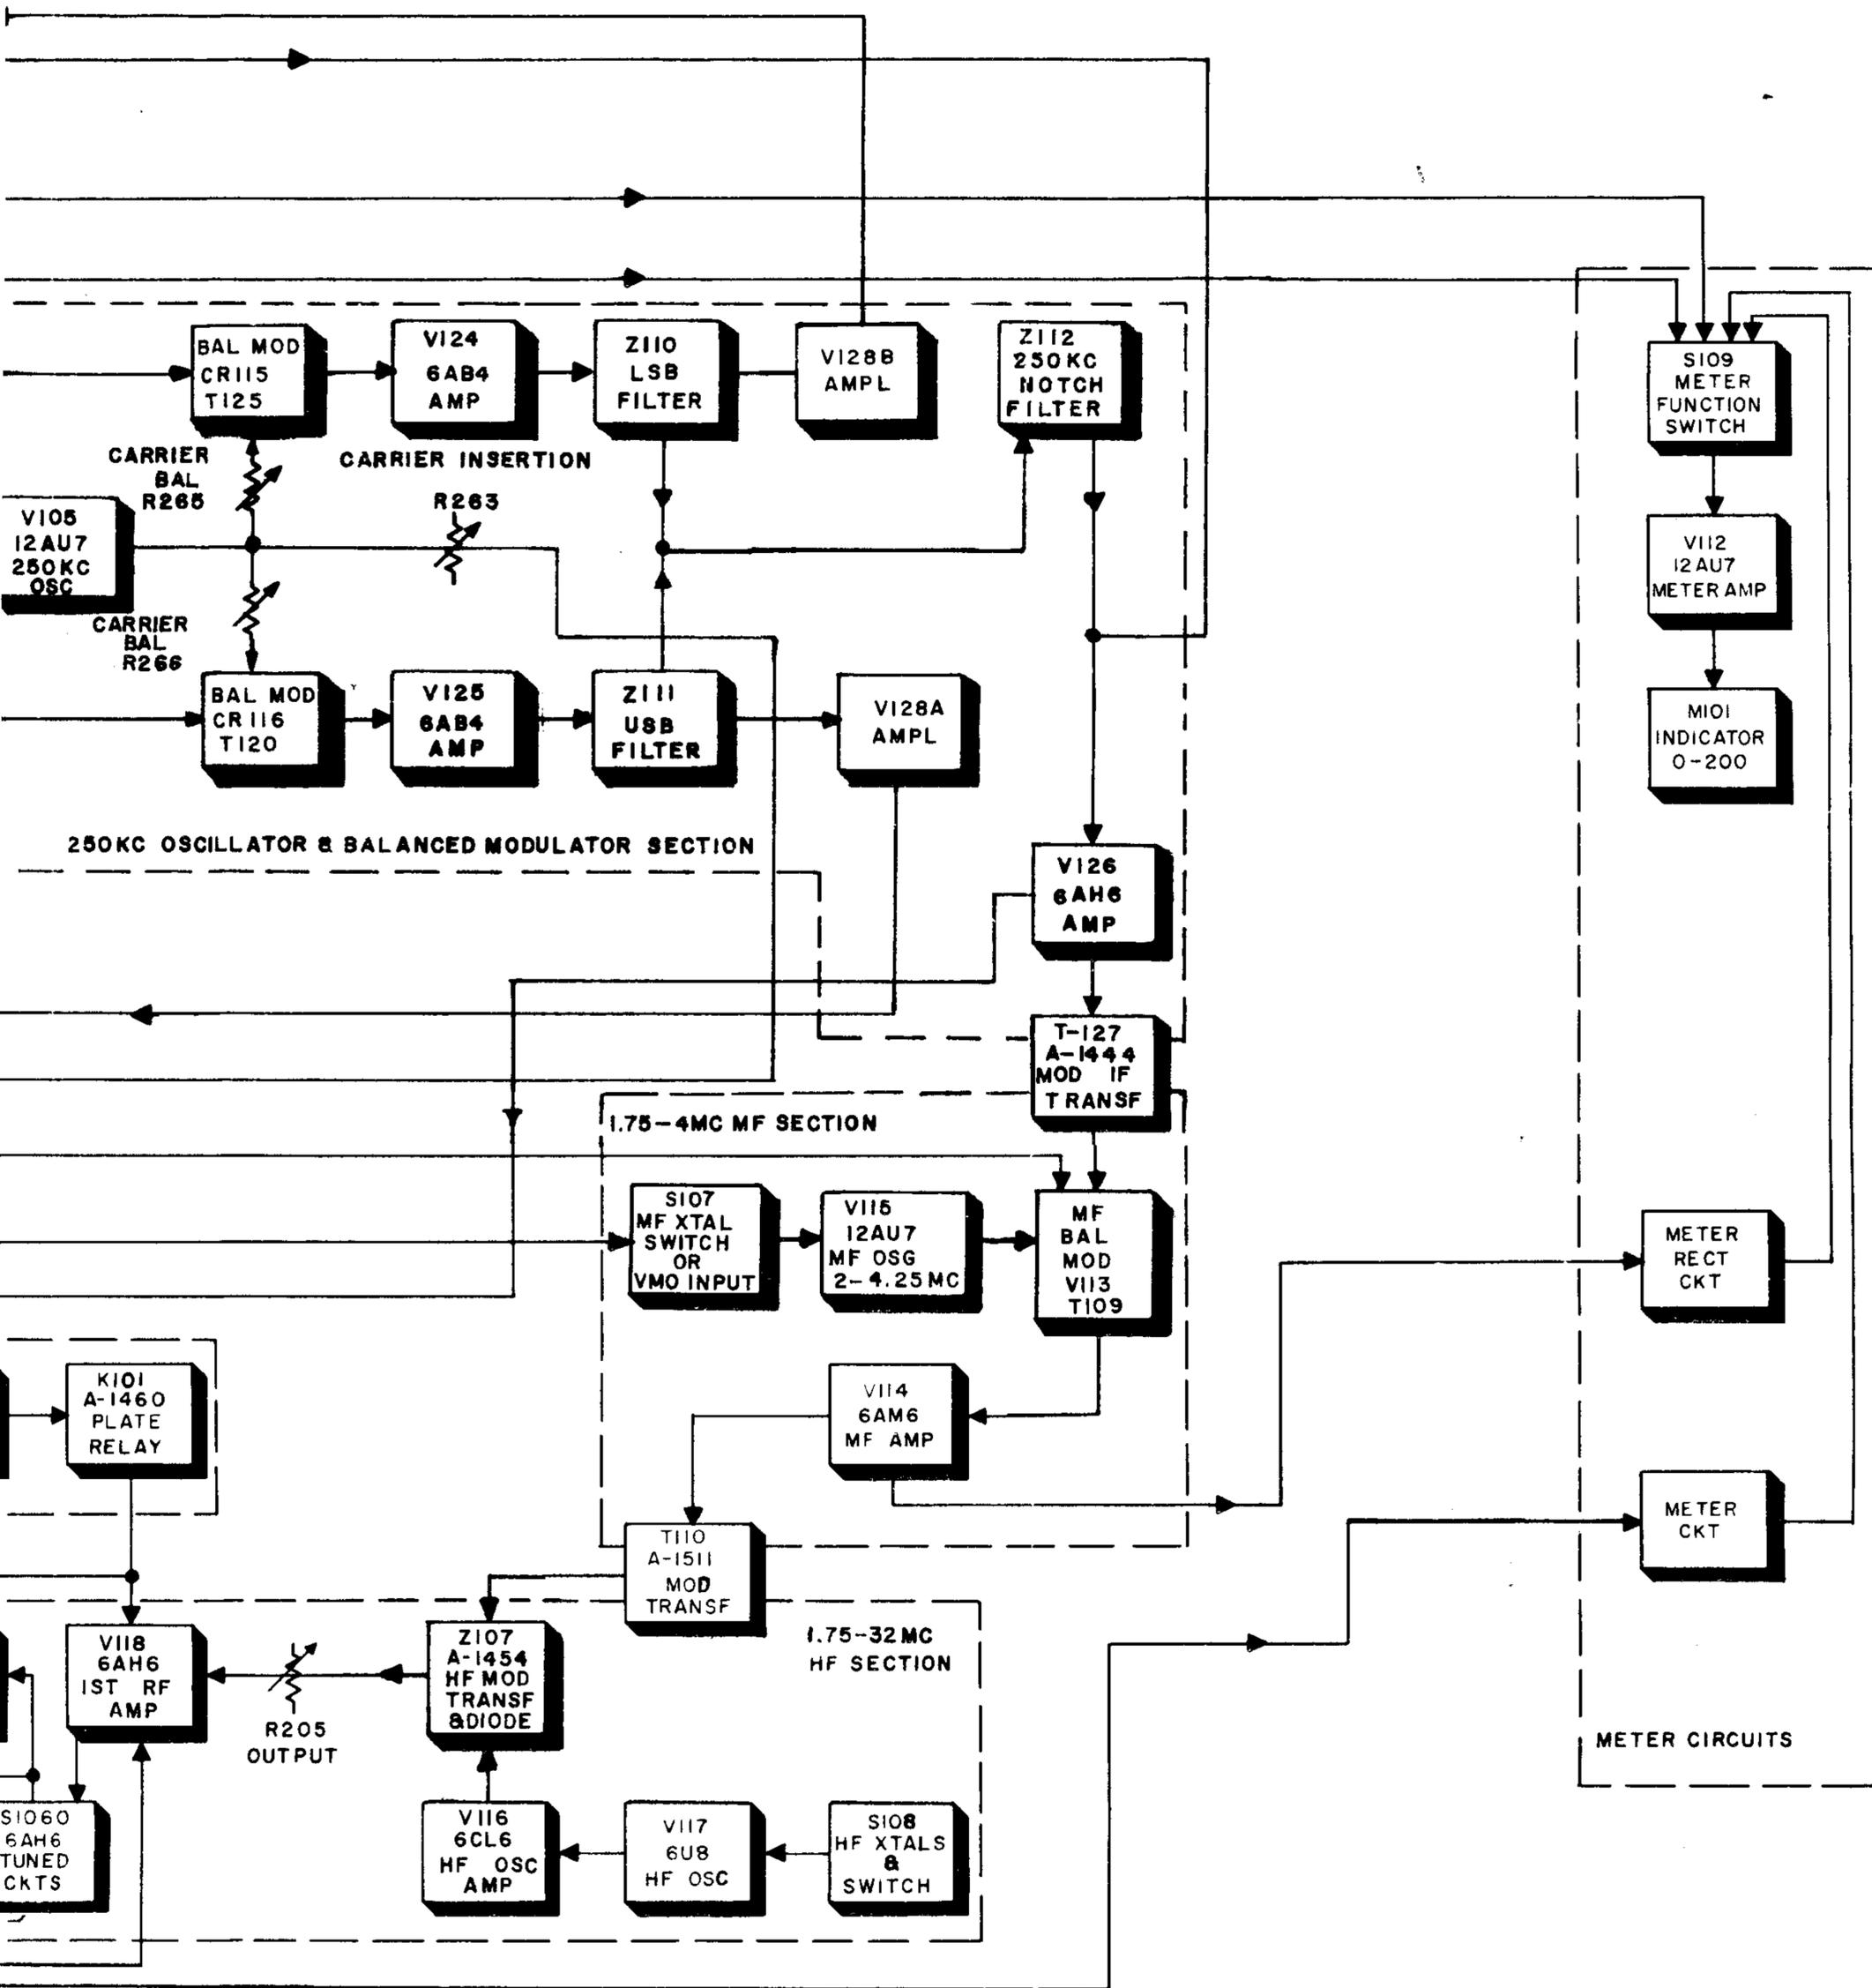

Figure 4-1. Block Diagram, SBE
Refer to figure 4-1. The SBE comprises seven major sections: (1) audio input section, (2) 250-kc oscillator and balanced modulator section, (3) 1.75- to 4-mc MF section, (4) 1.75- to 32-mc HF section, (5) squelch and VOX section, (6) M101 meter section, (7) power-supply section.